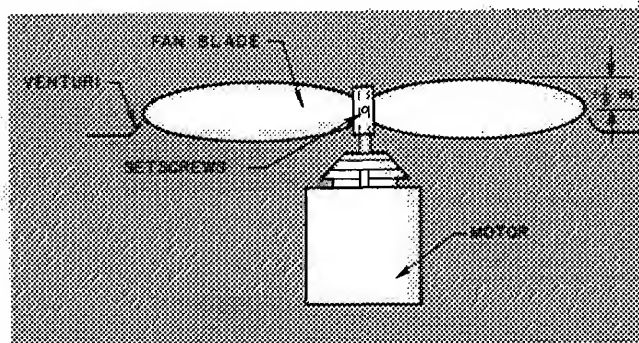

Fig. 10 — Condenser Fan Position
**Metal Fan** — Required fan position is shown in Fig. 10. Adjust fan by loosening setscrew and moving fan blades up or down.